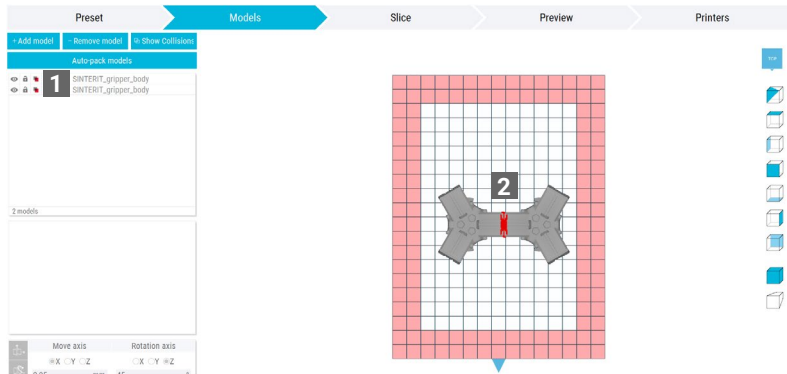

Fig 2.25 Collision of models.
It may happen that you won't see the overlap of the models. You can check this easily. Just select the Show Collisions button. If the models overlap, collision icons (1) will appear next to the model names and the area where the contact occurs will be indicated in red (2) (Fig 2.25).